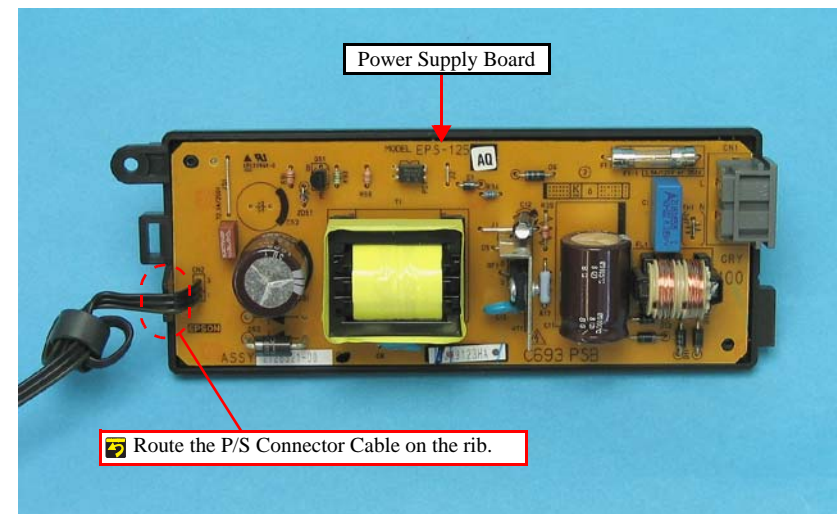

Figure 4-50. Removing the Power Supply Board (2)
- When installing the Power Supply Board, route the P/S Connector Cable on the ribs of the P/S Assy as shown in Fig. 4-50.